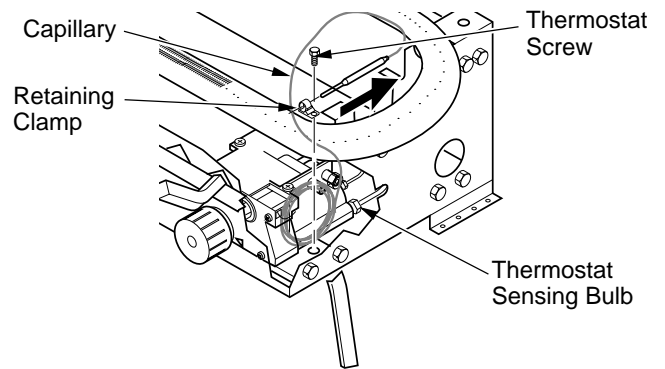

Figure 49 - Removing Thermostat Sensing Bulb
2. With 1/4" hex driver or socket, loosen the thermostat screw. Carefully slide the thermostat sensing bulb out of the retaining clamp (see Figure 49).